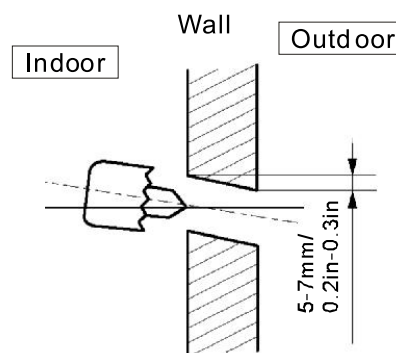

Fig.4
1. Determine hole positions according to left and right side of the installation plate. The hole center is obtained by measuring the distance as shown in the diagram of Fig.4.
3. Drill the piping hole at either the right or the left and the hole should be slightly slanted to the outdoor side, see Fig.4.